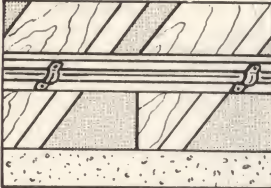

FIG. 33
**PROTECT EXPOSED CABLE.** Where cable is exposed, as in open ceilings or walls of basements, attics, barns, etc., it should follow some supporting surface and be given reasonable protection against mechanical injury. A practical method is to run cable along the side of a stud or joist. If cable is across or at a right angle to such timbers, it should be protected by mounting on 1 x 2 in. or 1 x 3 in. running boards, as illustrated in Fig. 33. In an unfinished basement where a flush ceiling is desired, cable may be run through holes bored in center of the floor joists. When subject to damage, cable may be protected by encasing it in conduit.